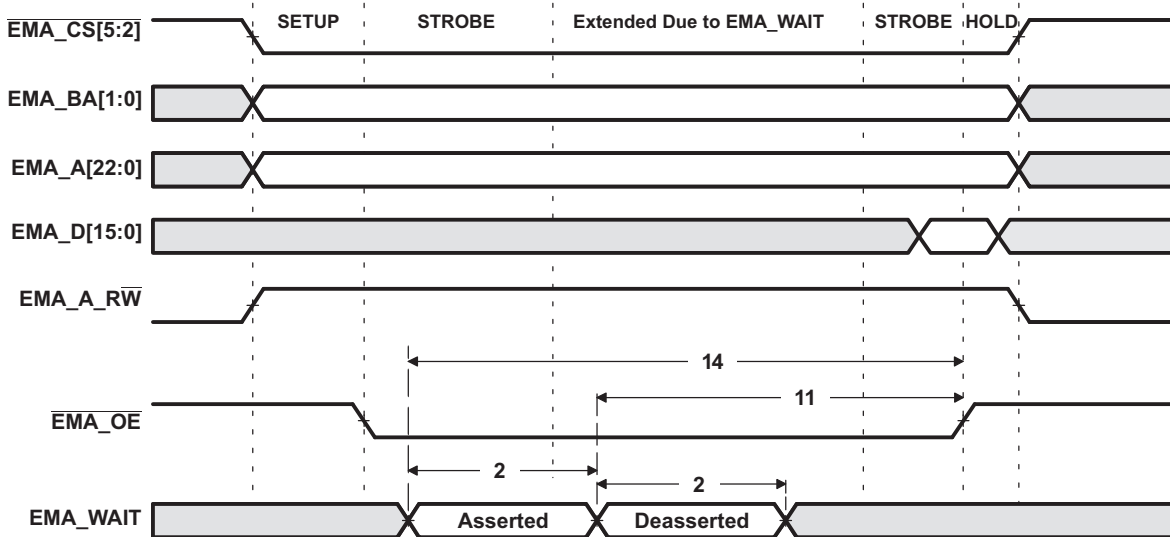
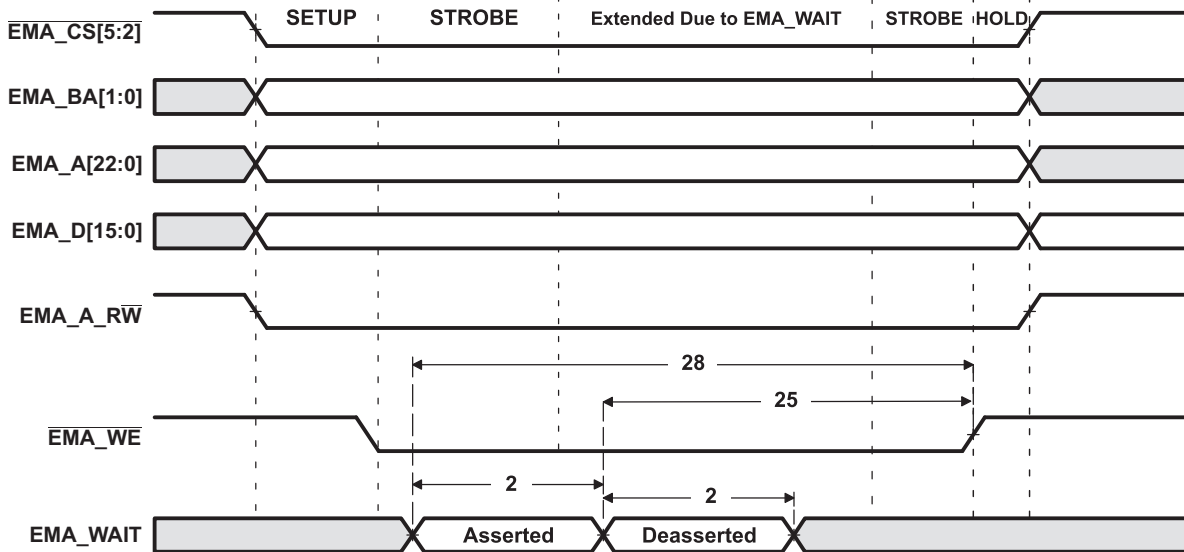

Figure 5-16. EMA\_WAIT Read Timing Requirements
Figure 5-17. EMA\_WAIT Write Timing Requirements
(1) E = EMA\_CLK period or in ns. EMA\_CLK is selected either as SYSCLK3 or the PLL0 output clock divided by 4.5. As an example, when SYSCLK3 is selected and set to 100MHz, E=10ns
(2) Setup before end of STROBE phase (if no extended wait states are inserted) by which EM\_WAIT must be asserted to add extended wait states. Figure 5-16 and Figure 5-17 describe EMIF transactions that include extended wait states inserted during the STROBE phase. However, cycles inserted as part of this extended wait period should not be counted; the 4E requirement is to the start of where the HOLD phase would begin if there were no extended wait cycles.
**Table 5-24. Switching Characteristics for EMIFA Asynchronous Memory Interface** (1) (2) (3)